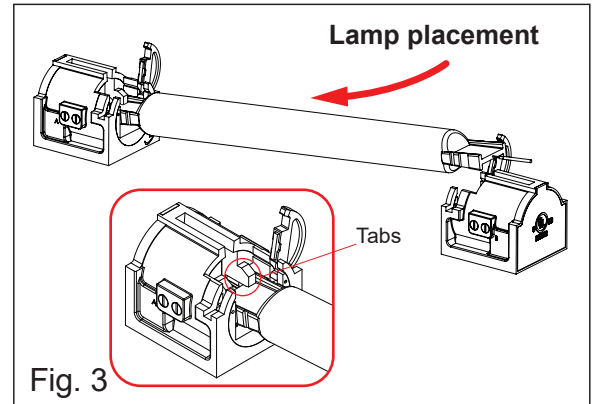

Fig. 3
3. With gloves on hands, place one end of the lamp into the socket under the tabs, then lower the other side slightly and slide inward to clear the opening of the opposite socket. Lamp should lay flat. Ensure the lead wires extend into the channel and oriented so that the burner filament (the long wire that runs along the full length of the arc tube) is positioned so that after rotating 180° will be facing the top of the reflector (Fig. 3).